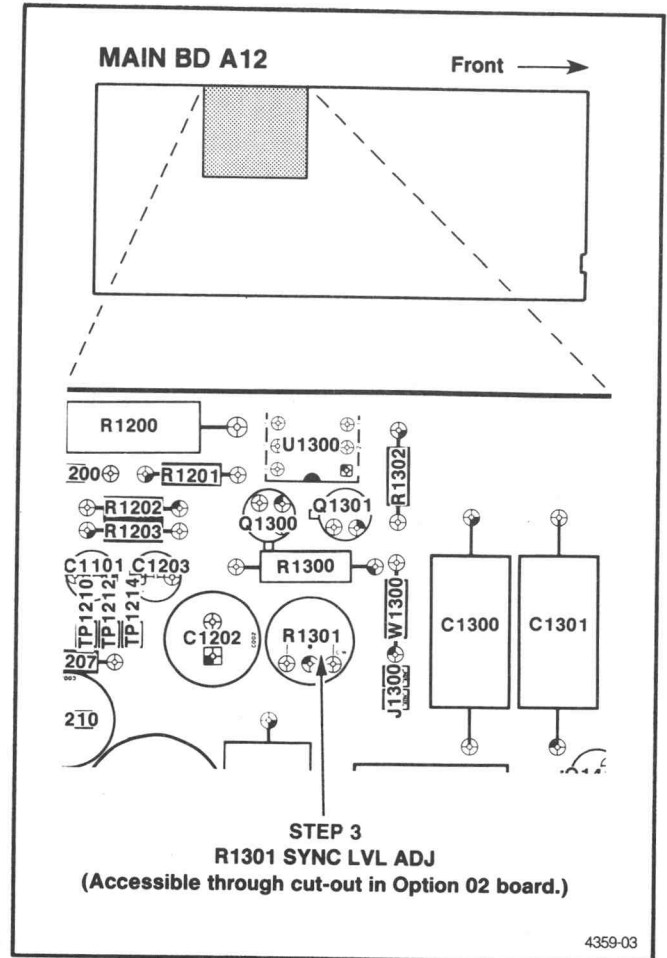

Fig. 4-10. Location of R1301, Sync Lvl Adj.
c. ADJUST—A12 R1301, Sync Level Adj, for a voltmeter reading of 0.2 V rms. Refer to Fig. 4-10 for the adjustment location.